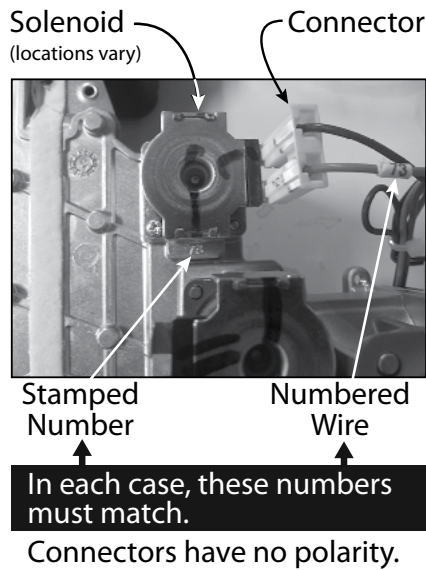

Figure 50.
- Each set of wires has a tag with a number on it, and each solenoid valve has a number stamped next to it. During installation, each wire number must match its solenoid valve number. **See Figure 50.**